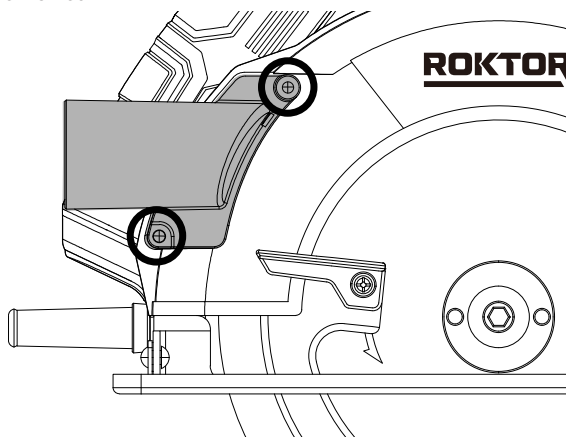

Figure 5
2. VACUUM ADAPTOR FITTING (SEE FIG. 5)